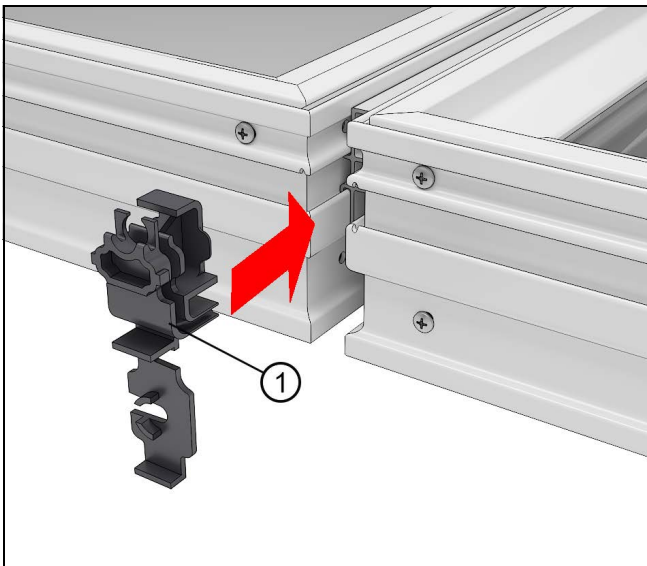

Figure 5
2. Insert the mull plugs with the injection hole oriented toward the exterior. See Figure 5.